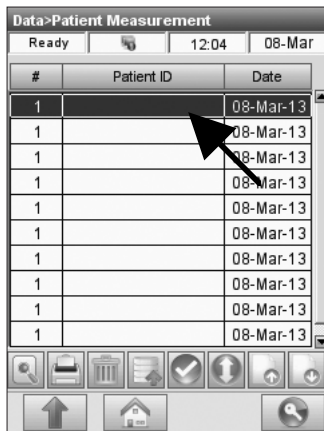
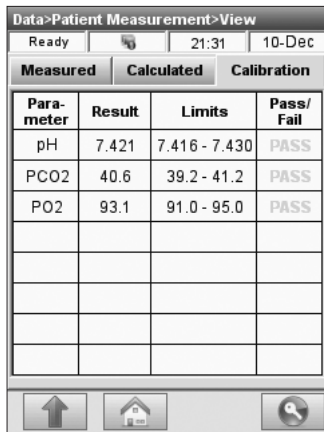

Fig. 6-3 Patient Measurements
Fig. 6-4 Measurement Results
- In the **<Data - Patient Measurement>** screen (Fig. 6-3), select a measurement and press the **<View>** button  to display the measurement results (Fig. 6-4).
- To print individual results, highlight the desired measurement (Fig. 6-3).